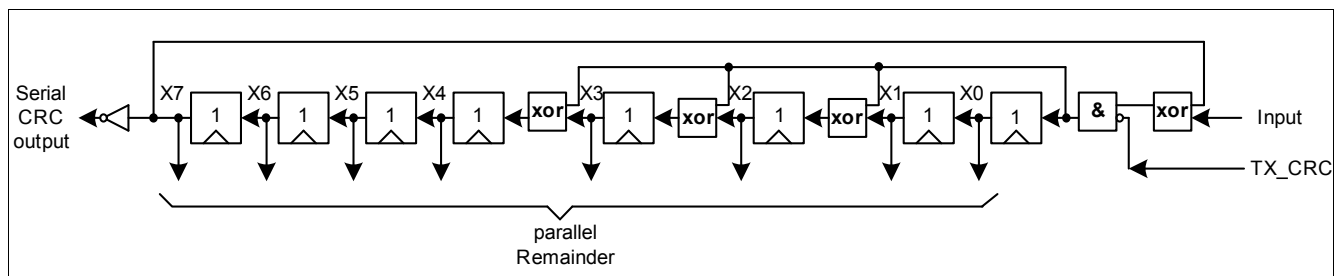

Figure 25 Fast CRC polynomial division circuit
- Generator polynomial: $X^8 + X^4 + X^3 + X^2 + 1$, but for the CRC generation the fast-CRC generation circuit is used (see Figure 25).